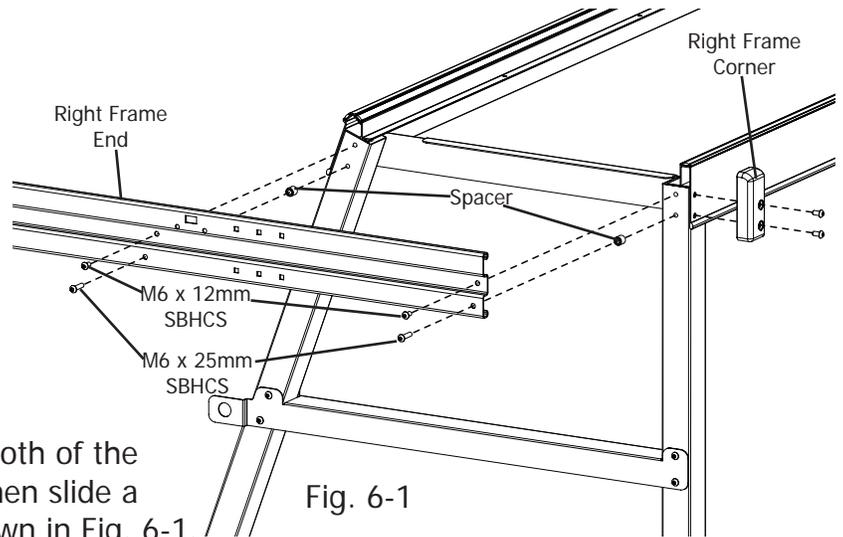

Fig. 6-1
**6-1:** Slide a M6 x 25mm SBHCS through both of the bottom holes in the right frame end and then slide a spacer on the end of those screws, as shown in Fig. 6-1.
⚙️ **6-5:** Remove the two screws from the back corner of the right leg, as show in Fig. 6-1.